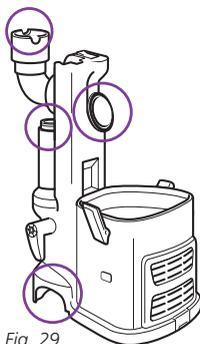

Fig. 29
- Remove the dust cup and extension wand and separate the portable *Lift-Away*® canister from the motorized floor brush. Look in all 4 openings for any blockages. (Fig. 29)